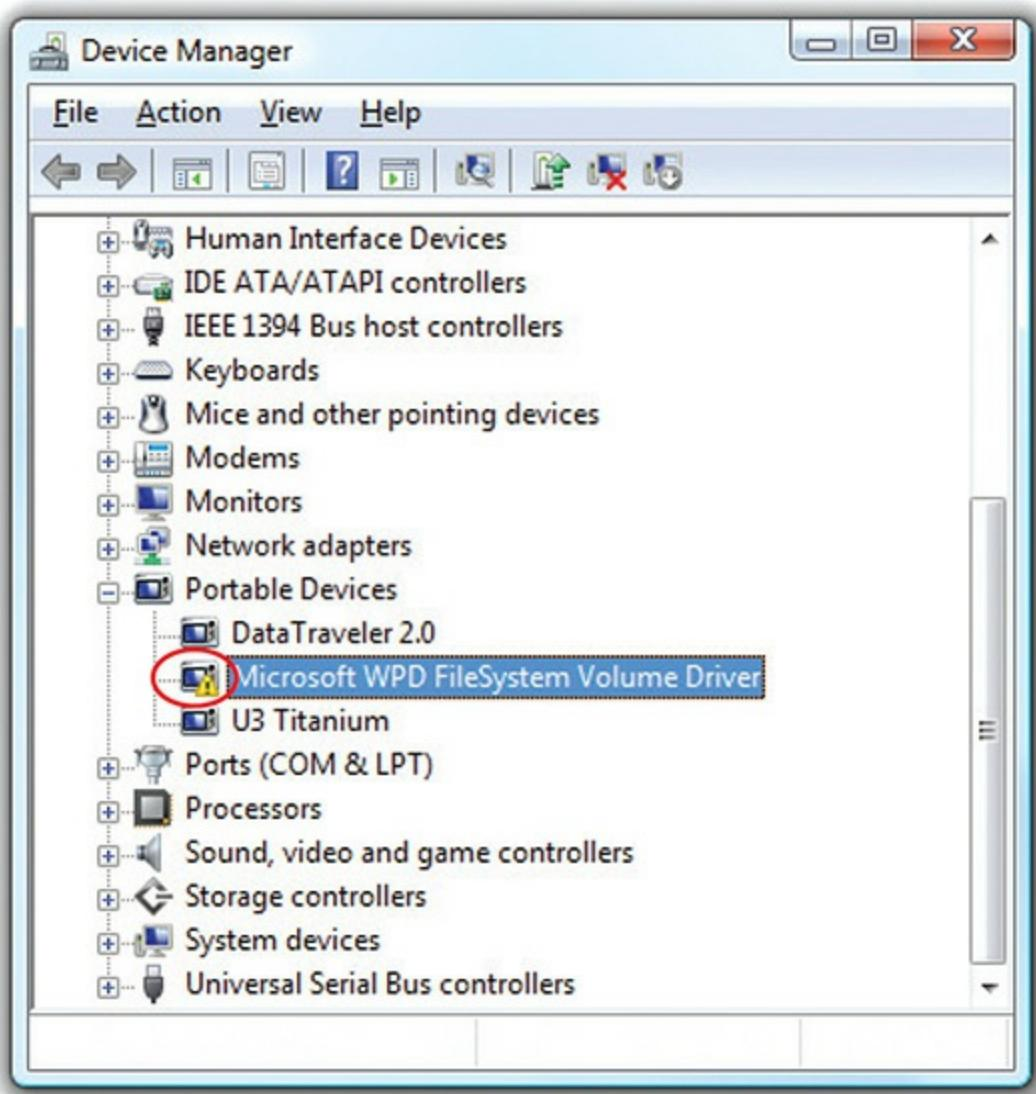

Figure 6-36 An “!” in Device Manager, indicating a problem with the selected device
- A black “!” on a triangle indicates that a device is missing (see Figure 6-36), that Windows does not recognize a device, or that there’s a device driver problem. A device may still work even while producing this error.